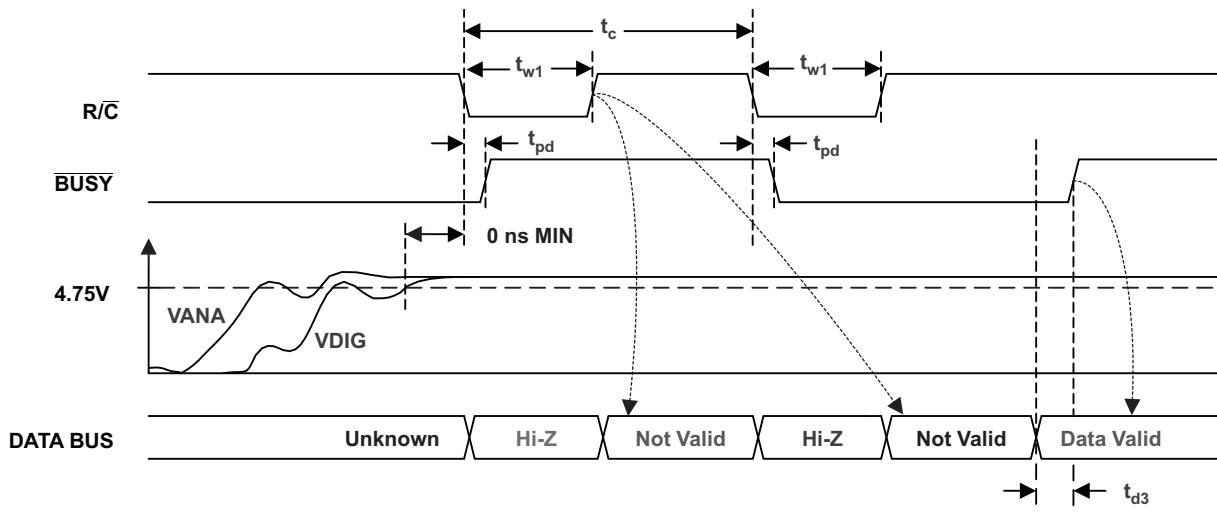

Figure 22. ADC Reset
The combination of \overline{CS} (pin 25) and $\overline{R/C}$ (pin 24) low for a minimum of 40 ns immediately puts the sample/hold of the ADS8504 in the hold state and starts conversion n . \overline{BUSY} (pin 26) goes low and stays low until conversion n is completed and the internal output register has been updated. All new convert commands during \overline{BUSY} low will abort the conversion in progress and reset the ADC (see Figure 22).
(2) See Figure 22 for details on ADC reset.